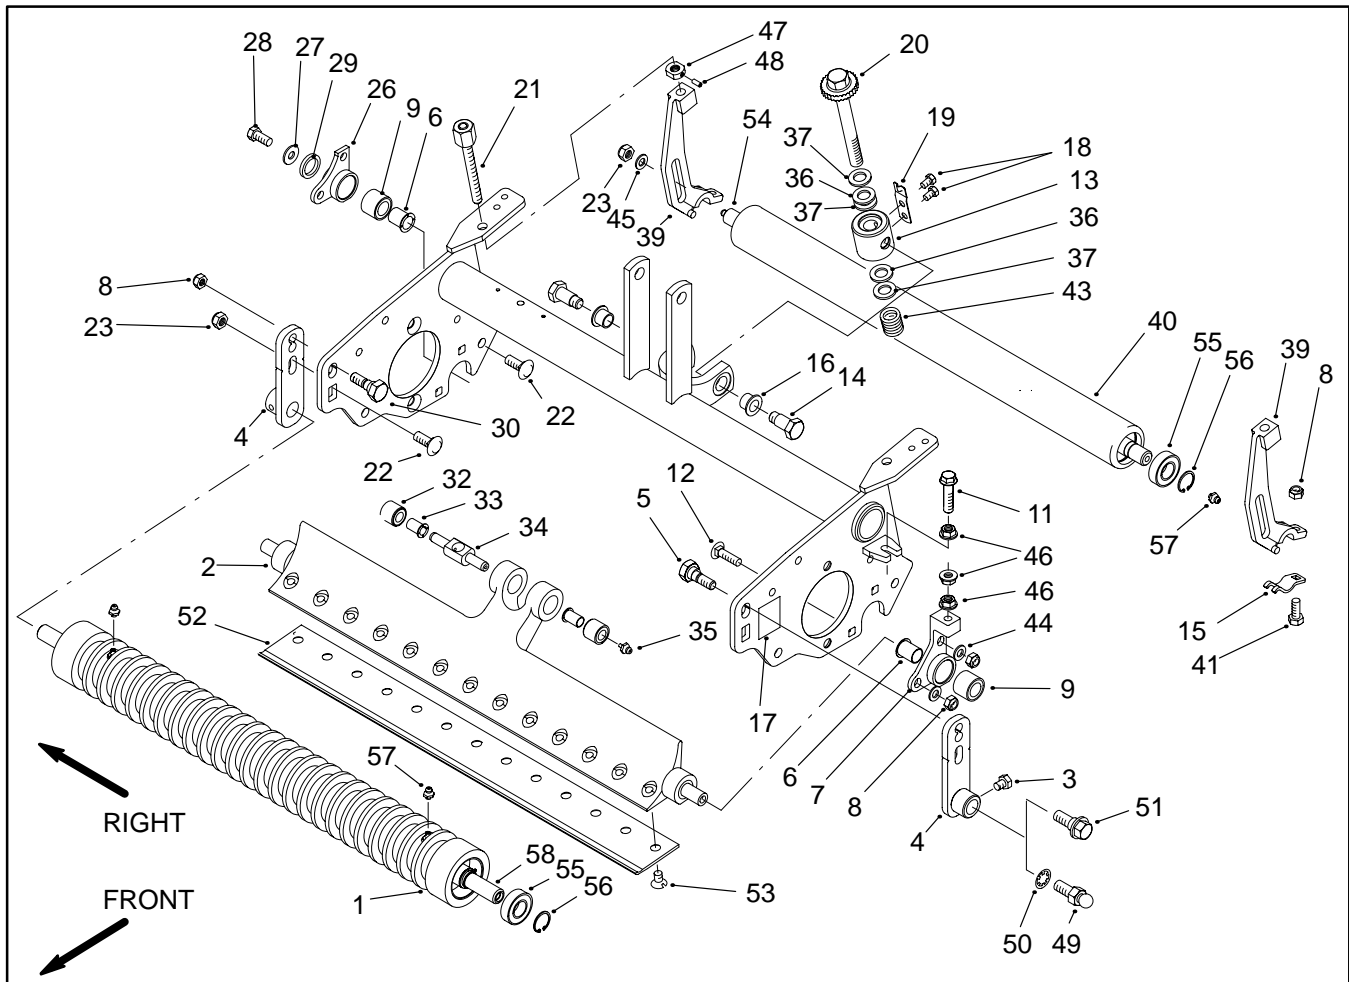

Figure 25
### Removal (Fig. 25)
3. If keeping the cutting unit on the lift arm, lower the cutting unit onto a wood board thick enough to allow the rear roller to be released down from the height-of-cut (H-O-C) adjustment brackets (39).
A. Remove carriage screw (41) and lock nut (8) from both H-O-C adjustment brackets (39).
B. Remove height-of-cut tab (15) from both H-O-C adjustment brackets.
5. If the height-of-cut (H-O-C) adjusters (21) or H-O-C adjustment brackets (39) need removing, remove them as follows (Fig. 25):
A. Remove lock nut (23), flat washer (45), and carriage screw (22) from the H-O-C adjustment bracket and frame.
C. Remove set screw (48) from the locking nut (47) securing the H-O-C adjuster to the frame tab.
### Installation (Fig. 25)
2. If the H-O-C adjusters (21) or H-O-C adjustment brackets (39) were removed, reinstall brackets as follows:
A. Apply loctite 242 or equivalent to the threads of the H-O-C adjusters about 1/4 inch (6 mm) below the hex and to the threads of the set screw (48). Start set screw into locking nut (47).
E. Insert carriage screws (22) through the H-O-C adjustment bracket and frame. Secure bracket and screw with flat washer (45) and locking nut.
3. Reinstall rear roller as follows (Fig. 25):
A. Tilt back of the cutting unit up, and position rear roller shaft (54) under each H-O-C adjustment bracket (39). Lower unit and brackets onto the roller shafts.
B. Attach height-of-cut tab (15) to both H-O-C adjustment brackets so the tab is below the roller shaft.
C. Make sure roller is centered on the cutting unit. Secure height-of-cut tab to the H-O-C adjustment bracket with carriage screw (41) and lock nut (8).
4. If the H-O-C adjustment brackets (39) were removed, verify height-of-cut (see Height-of-Cut Adjustment).